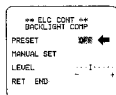

Fig. 59
- Press the Set Switch (11) to proceed to the Backlight compensation menu as shown in Fig. 59.